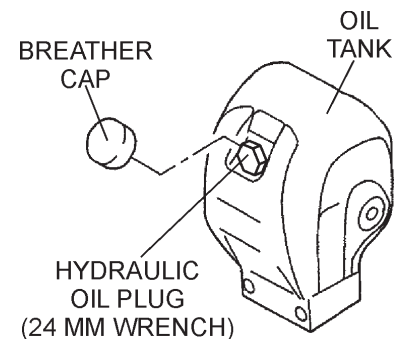

Figure 30. Hydraulic Oil Tank
1. Remove the breather cap and oil plug (Figure 30) from the hydraulic oil tank using a 24mm hex socket.